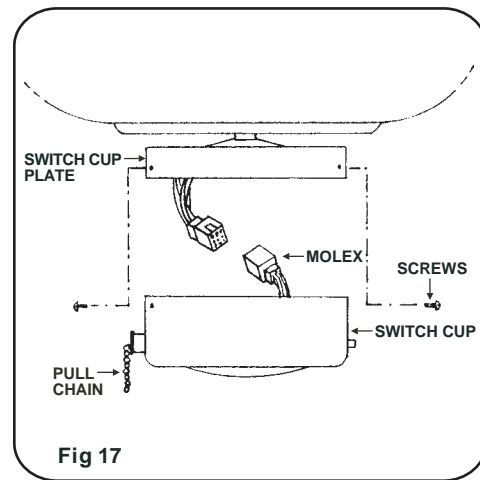

Fig 17
Step 1. Remove the screws from the switch cup plate. While holding the switch cup, firmly snap the wire molexes together. Next, slide switch cup up against plate and rotate it until the screw holes are aligned. Secure switch cup to plate using the screws removed earlier. (Fig. 17)
Step 2. Attach the pull chain fob to the chain on the switch cup. (Fig. 17)